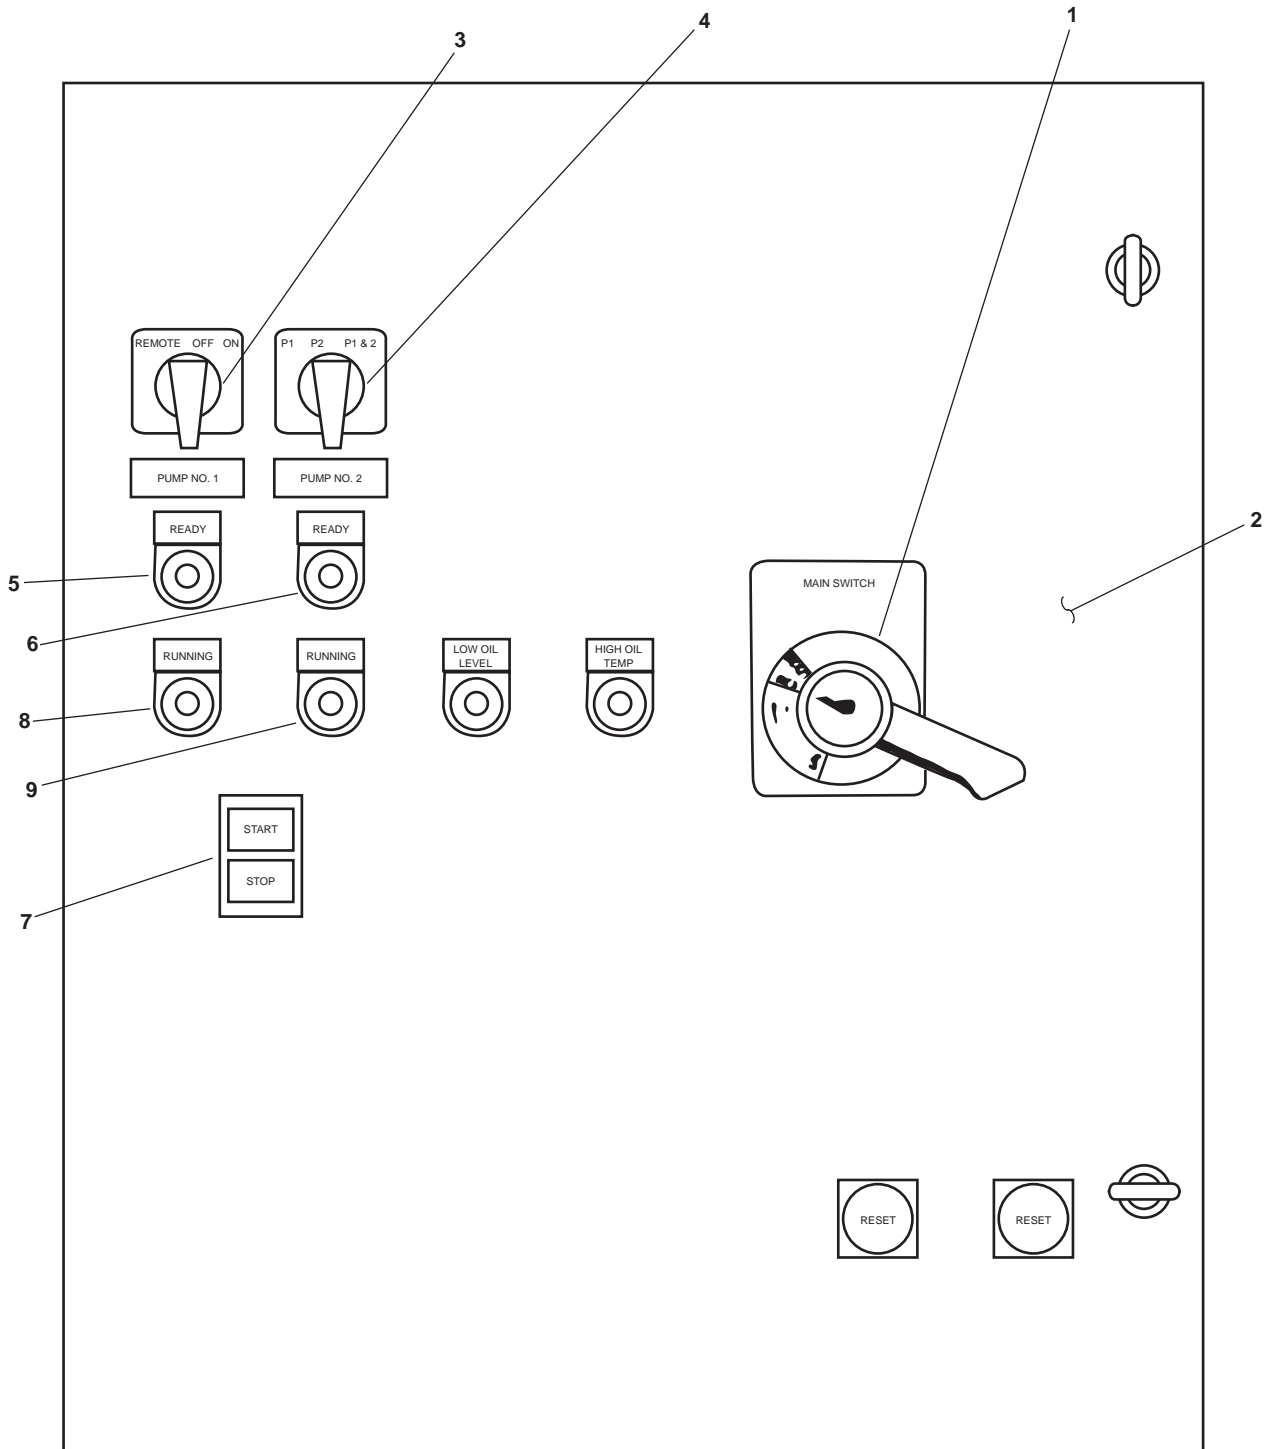
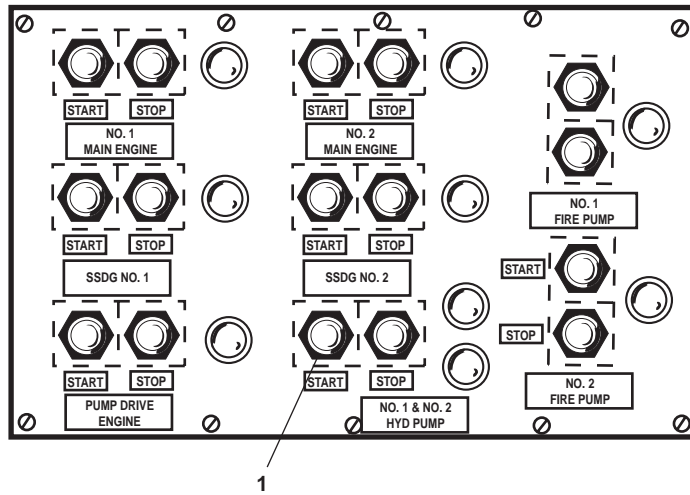

Figure 5. Central Hydraulic System Control Panel
Figure 6. EOS Engine Control Console
7. Set the P1/P2/P1 & 2 switch (figure 5, item 4) to the P1 & P2 position. Operation of both pumps is required to properly support towing machine operations.
8. At the central hydraulic control panel, verify that the READY lights (figure 5, items 5 and 6) are illuminated for both pumps.
9. If local operation was selected in step 6 above, press the START pushbutton (figure 5, item 7) on the central hydraulic control panel to start the pumps. If remote operation was selected, press the NO. 1 & 2 HYD PMP pushbutton (figure 6, item 1) to start the selected pump(s).
10. Verify that the RUNNING indicators (figure 5, items 8 and 9) illuminate for both pumps on the central hydraulic control panel.